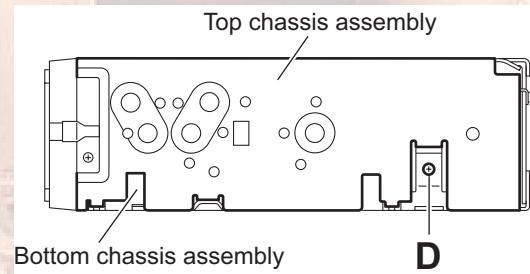

Fig.4
- From the both and rear sides of the main body, remove the four screws **D** attaching the top chassis assembly to the bottom chassis assembly. (See Figs.4 to 6)